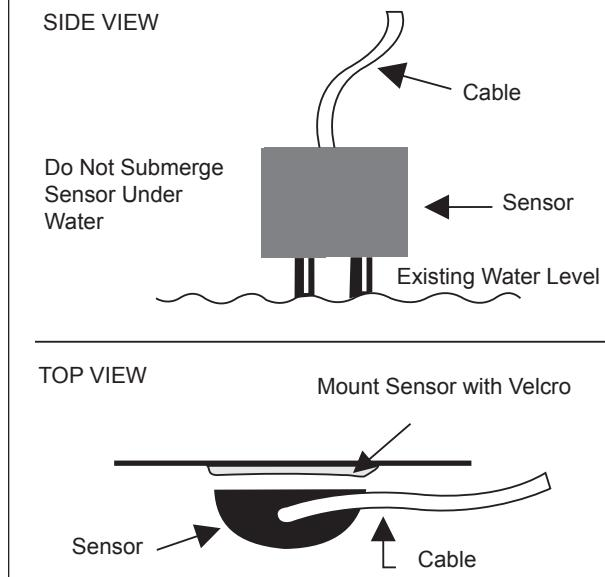

Figure 13. Skim (Half-moon) Sensor Retrofit Installation
- a. Mount the skim (half-moon) sensor horizontally to an existing skimmer. Mount with velcro or a suitable adhesive in the skimmer throat behind the whir door arc. See Figures 13 and 15.